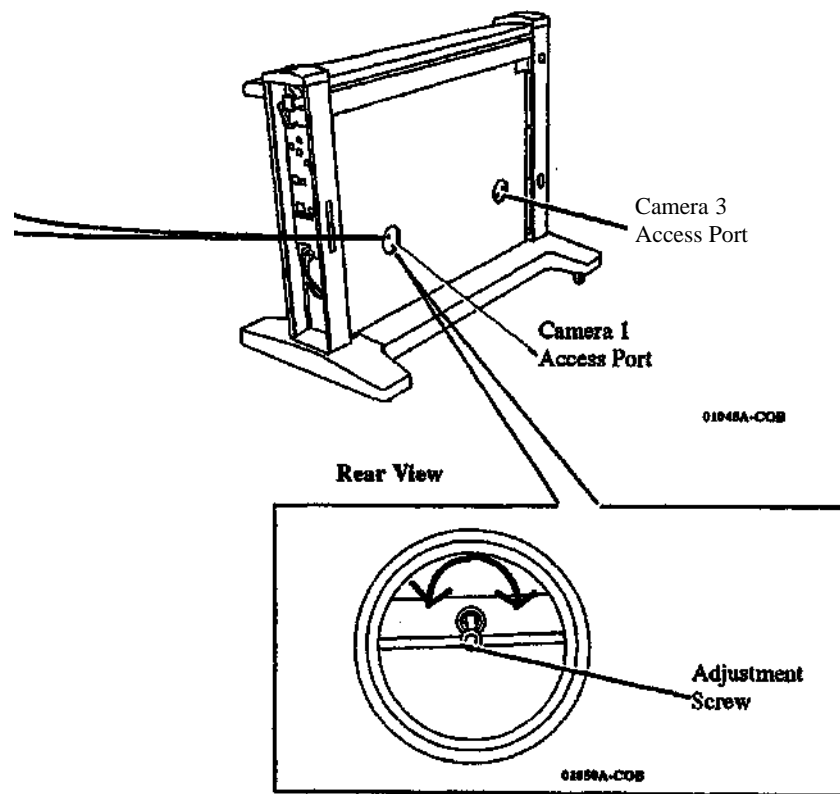

Figure 3. Adjustment Screw
2. (Figure 3): Adjust the screw until the Gap value is zero.